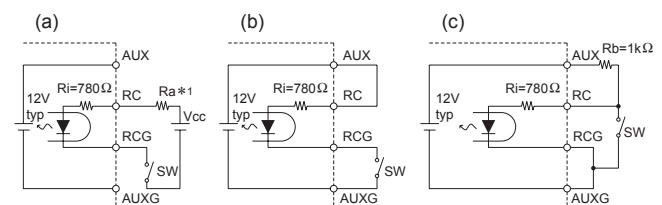

Fig.2.3 Examples of connecting remote ON/OFF circuit
■ You can operate the remote ON/OFF function by sending signals to CN1/CN2. Please see Table 2.2 and Table 2.3 for specifications and Fig.2.3 for connecting examples.
- ① The output stops when a current flows to RC.
- ② The current flown to RC is a 20mA max.
- ③ When the output voltage is turned off through the remote ON/OFF circuit, the built-in fan slows down.
- ④ If the output voltage is turned off through the remote ON/OFF circuit, the WRN signals and the PG signals keep "Low".
- ⑤ Description in this section is based on the assumption that you will use one unit alone. If you are planning to use the units in parallel operation or use multiple units for a single system, please check necessary voltage and current values.
Table 2.3 Specifications of remote ON/OFF (Case of Fig.2.3)